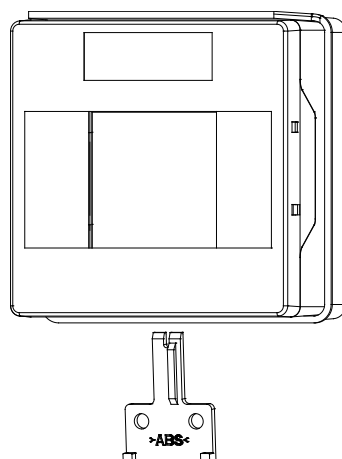

Fig. 6
3. Inset the key from the bottom (see Fig.6) to turn the operation panel to its initial position.